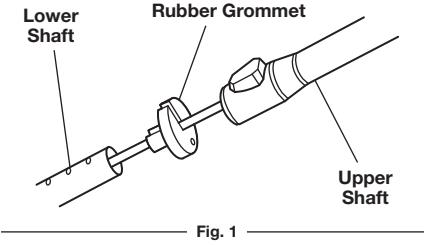

Fig. 1
- Remove and discard the rubber grommet (Fig. 1).